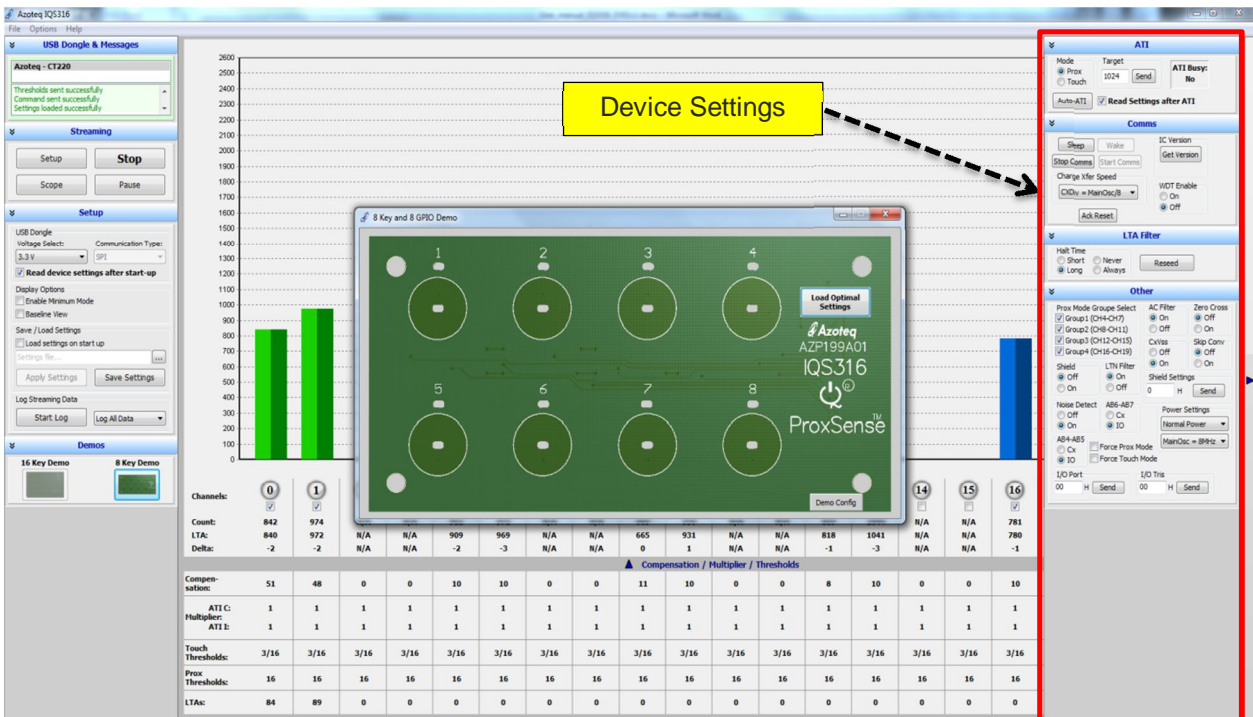

Figure 5.7 Device settings menu
□ Figure 5.7 displays the device setting menu: